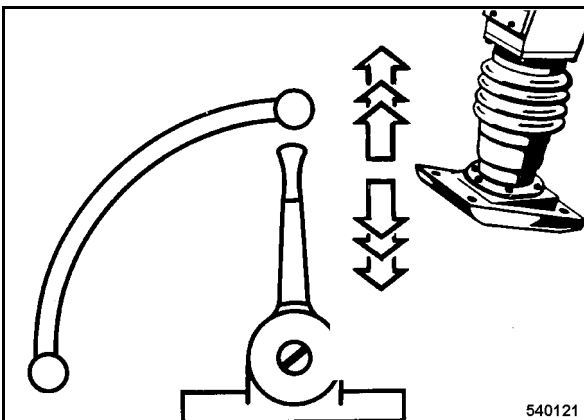

Fig. 16
- Set the throttle lever (Fig. 16) to position "MAX".